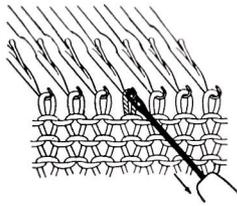

Fig. 22
- a. Hold the transfer tool parallel with the needles in the needle bed. Place the eye of the transfer tool into the hook of the needle. (See Fig. 22)